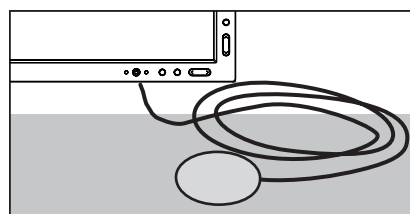

Figure C.3
3. Place the USB sensor face down on a non-reflective, opaque surface (i.e. desk or a mouse pad) to measure the black level (**Figure C.3**). Press "SELECT".